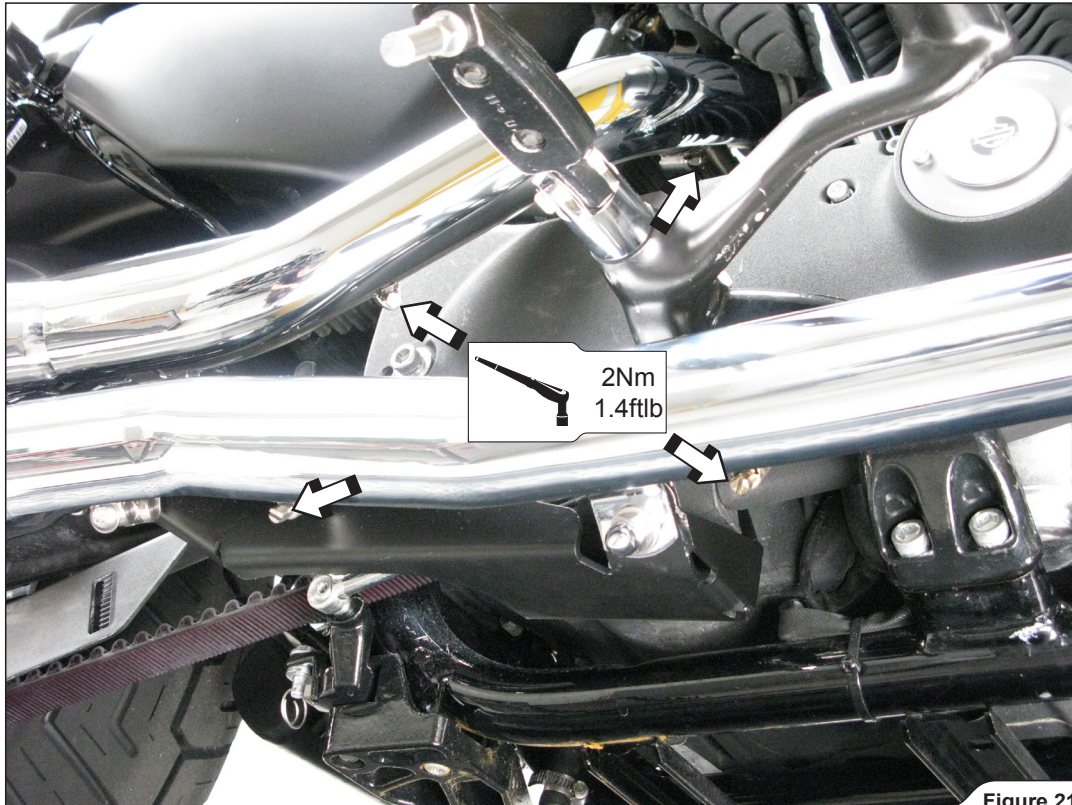

Figure 21
12. Assemble the heat shields onto the headers. Align the heat shields in respect to the header tubes and tighten all the tape clamps (Figure 21, 22).